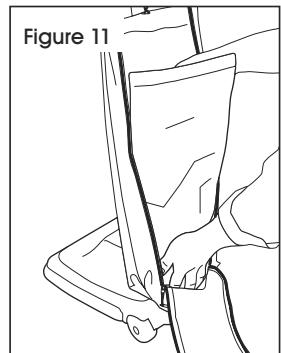

Figure 11
5. Tuck bottom of dust bag into the lower portion of the outer bag. (See Figure 11)